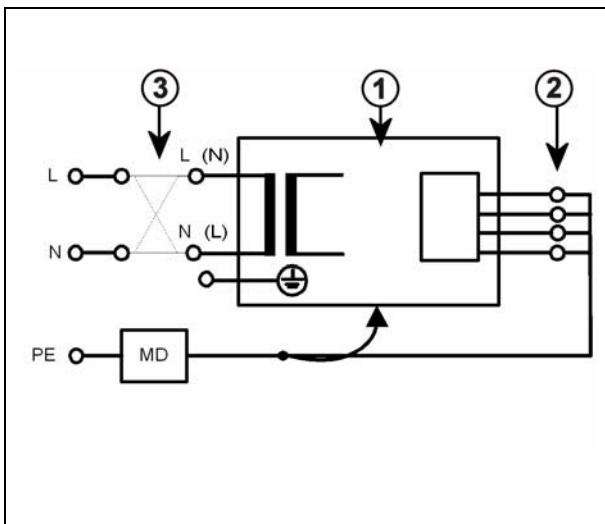

Fig. 4 Measuring circuit for the direct measurement of the system leakage current according to DIN VDE 0751-1/2001-10, Fig. C5 for protection class I.
If the direct measurement of the system leakage current is used (measuring arrangement according to Fig. 4), then the system must be set up insulated during the measurement and must not be touched during the measurement.
**No housing parts of the system may be touched during direct measurement of the system leakage current (measurement setup according to Fig. 4).**